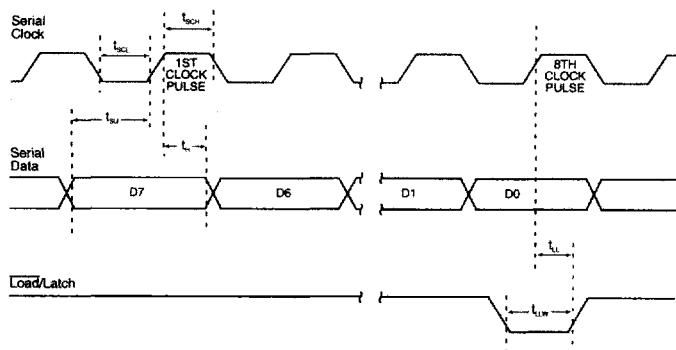

Figure 4: Serial Interface Timing Diagram
Serial data is loaded into the MX109's serial shift register together with the serial clock. When a logic "0" is applied to the Load/Latch input the serial data is loaded into the parallel register. A logic "1" on the Load/Latch input latches the data into the parallel register to be used elsewhere in the chip. The data word format (see section 5.1.1) and bit settings (see section 5.1.2) are shown below. The timing diagram for loading the serial data is shown in Figure 4.
4. Relative Timings are shown in Figure 4.